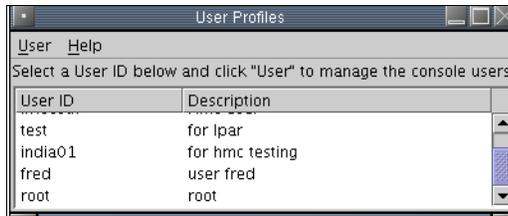

Figure 11-6 User (fred) added.
- ▶ As shown in Figure 11-6, displaying User profiles will now show Fred in the listing.